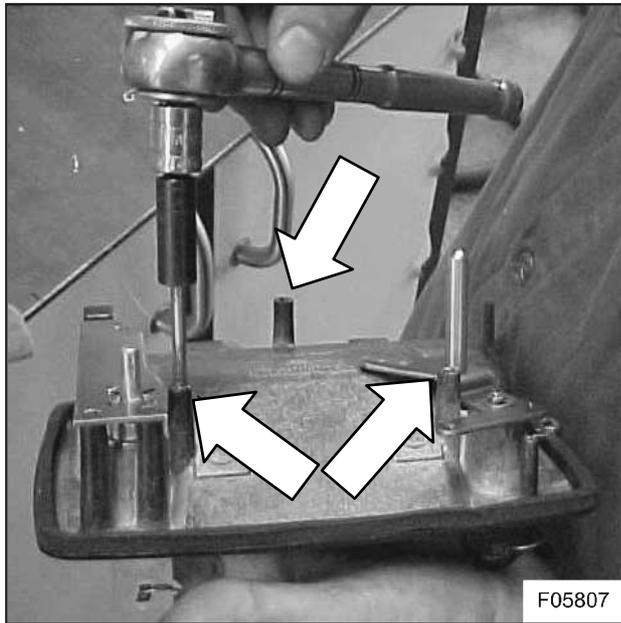

Figure 21: Tapping the inside plate assembly mounting holes
- 2) Tap the inside plate assembly mounting holes (see Figure 21) with a 5 mm tap.